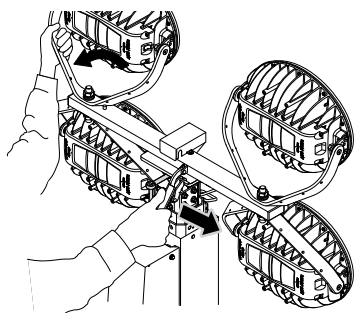

Figure 10. Locking Fold Lever
2. Push up the light tower and pull down the fold lever to lock the lamp stand (Figure 10).